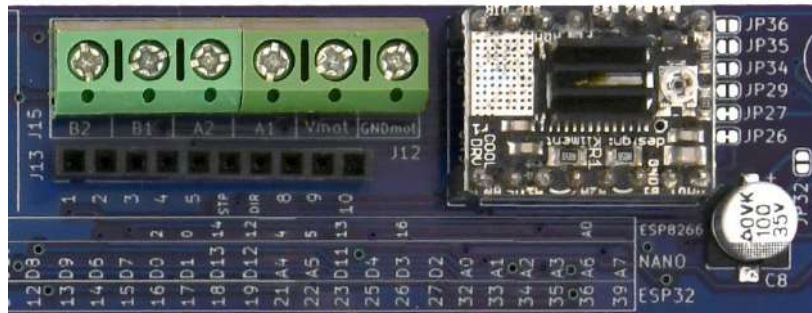

Figure 92 – A DRV8825 module plugged into BRD2 socket
- plug it into BRD2 socket according to the pinout (see Figure 92)